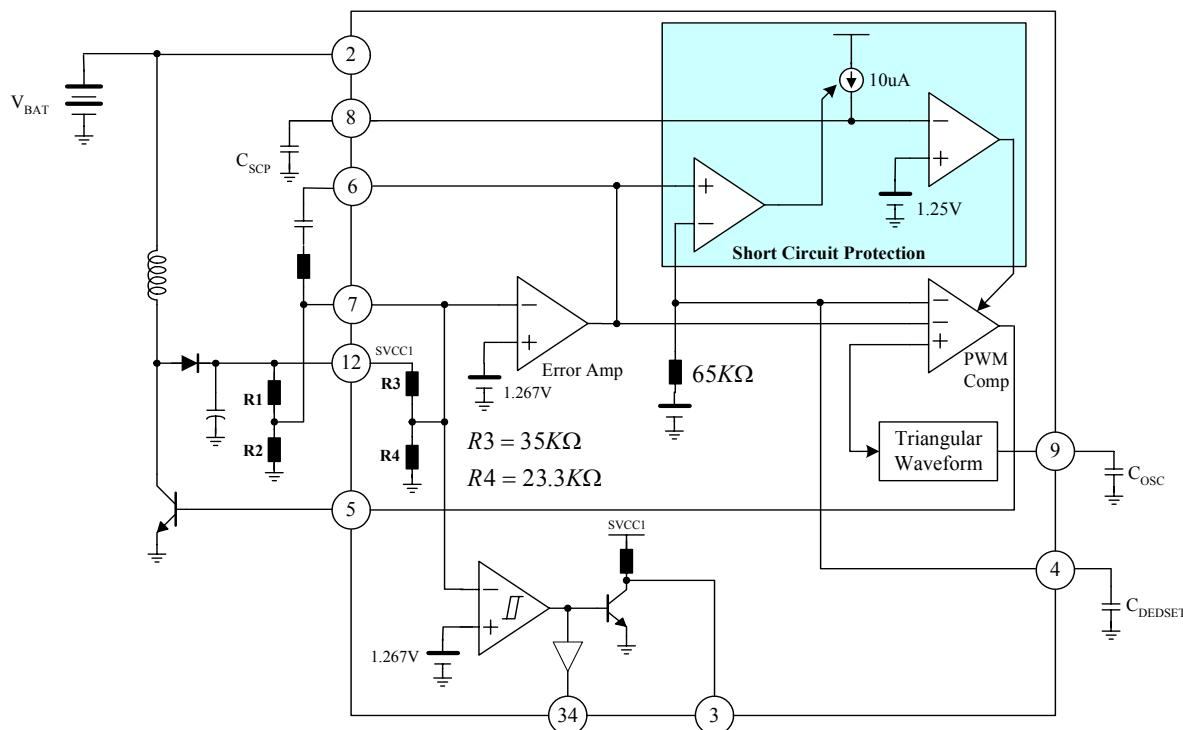

Figure 2. Schematic of DC-DC Converter
- The voltage, SVCC1, can be varied with addition of external resistors R1 and R2 as shown in Figure.2. The SVCC1 can be calculated as belows.